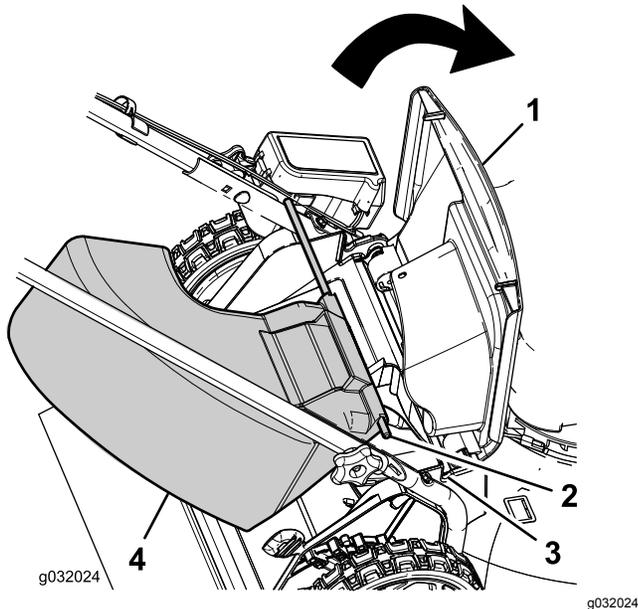

Figure 21
1. Lift up the rear door (Figure 21).
2. Insert the rod ends of the side-discharge chute into the notches on the handle brackets (Figure 21).